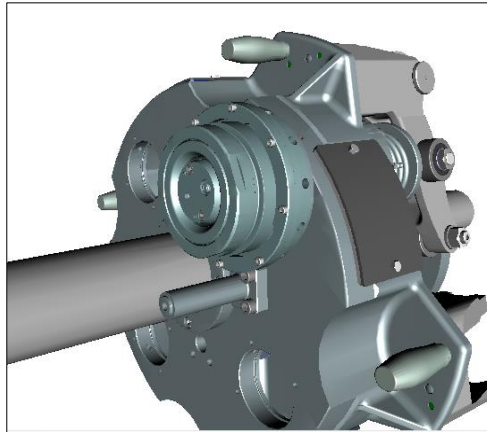
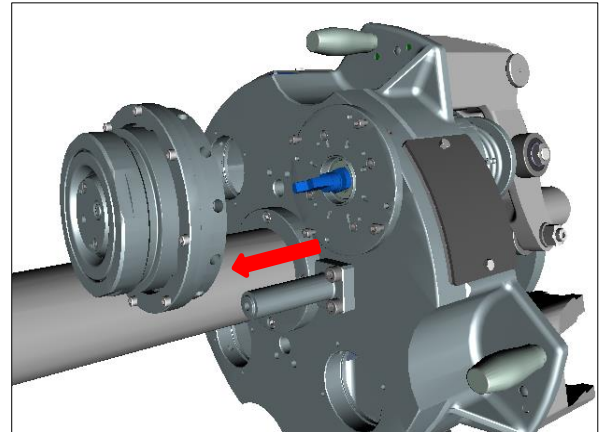

Figure 3
Figure 4
2. Twist the Trimming Head anti-clockwise and remove it from the Bearing Cap (Figure 3) and (Figure 4).